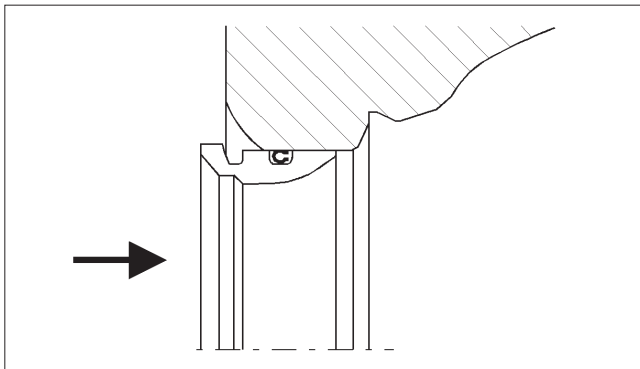

Fig. 15 Precompression of the lip seal
- Place the back seal (6) onto the seat (4).
- Lubricate the flow port, seat (4) and back seal (6) and the lock spring (5) with a volatile lubricant, e.g. Hyprez. Make sure that the lubricants are compatible with the medium.
- **Only for a lip seal:** Push the seal carefully into the flow port for about 15 minutes, Fig. 15. The following work phases must be completed before the precompression is lost.